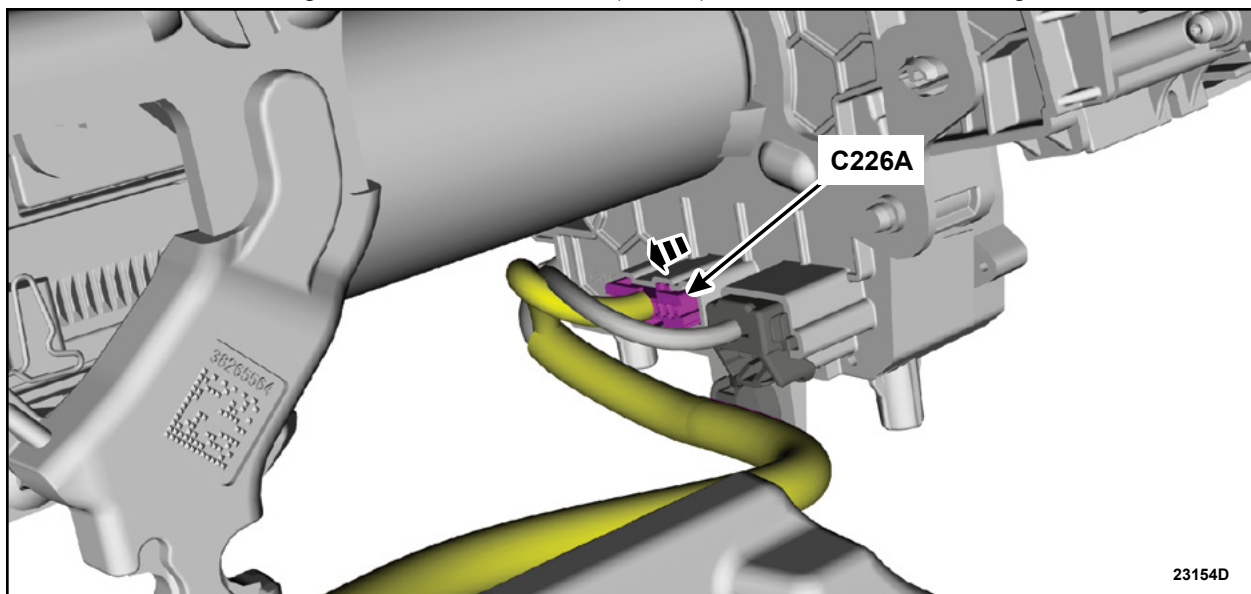

FIGURE 5
4. Disconnect the Steering Column Control Module (SCCM) connector C226A. See Figure 5.